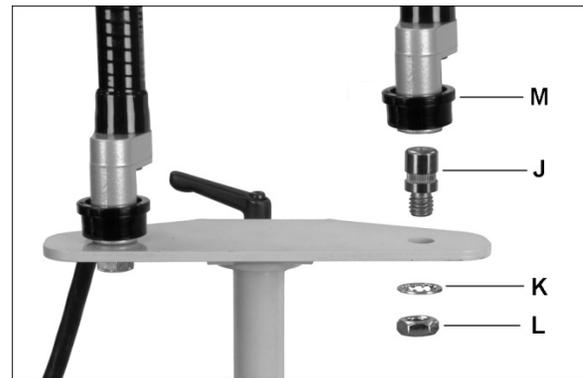

Figure 10
- Insert stud (J, Figure 10) into plate and secure with lock washer and nut (K/L).
- Lift up collar (M) on lamp arm while pushing arm down completely onto stud. Push collar back down to secure.